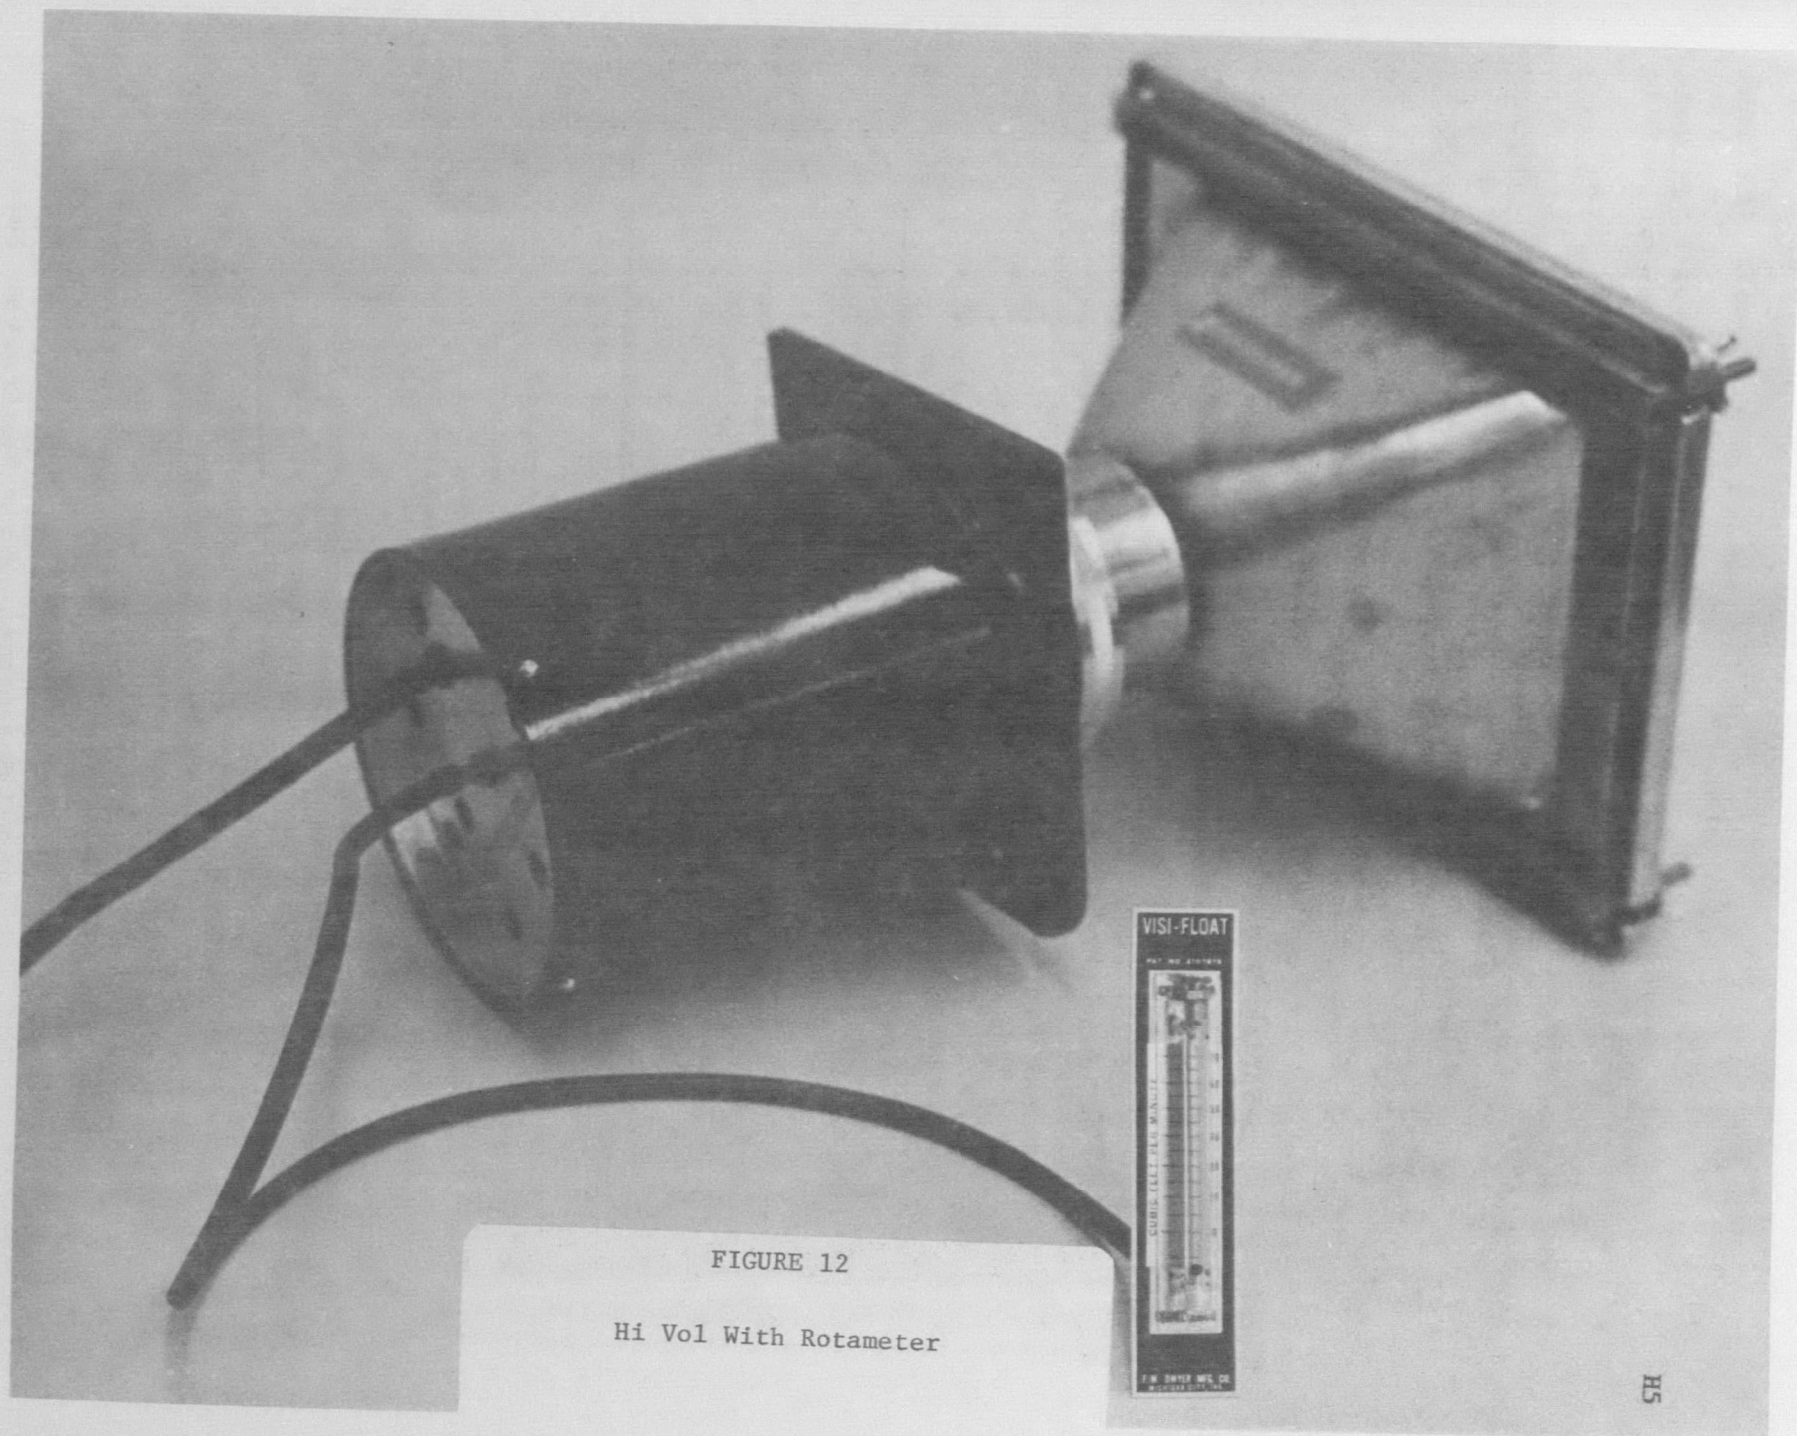

FIGURE 12
**Step #3:** Attach the rotameter to the hi vol motor as shown in Figure 12.